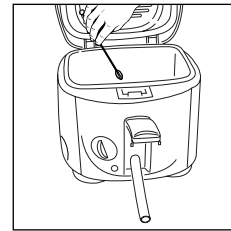

fig. 16
- A plastic pipe cleaner is supplied with the product for use in cleaning the oil drainage tube (Fig. 16). It is essential that no alternative pipe cleaners are used as **DAMAGE** may occur to the tube.